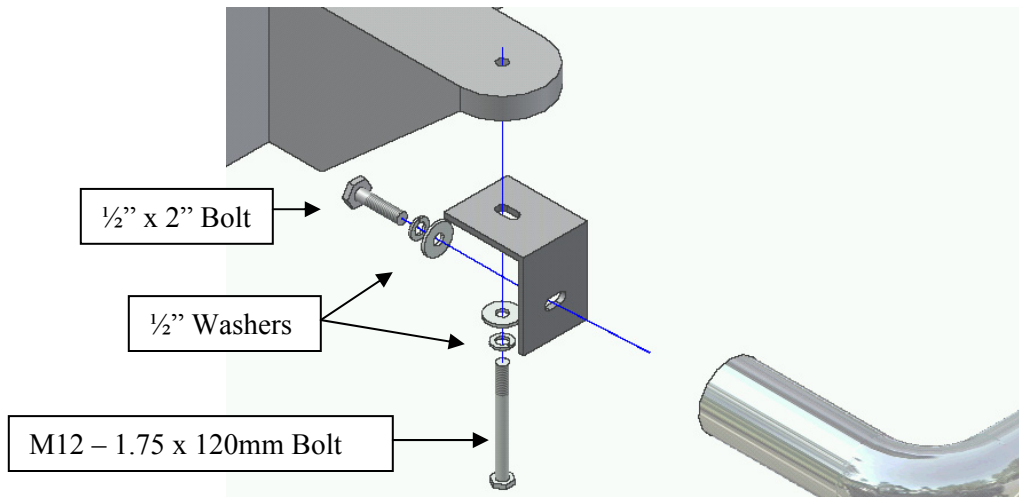

Figure 1.2 – Front Bracket
2. From underneath truck, loosen and remove body mount bolts that run upward through mounts into floorboard. Attach and secure Front Mount Bracket to underside of vehicles front body mount (see Figure 1.2) with (1) M12 – 1.75 x 120mm bolt ( For 07 Model, use the factory bolt on the vehicle), (1) 1/2" split lock washer, and (1) 1/2" flat washer. Hand Tighten.